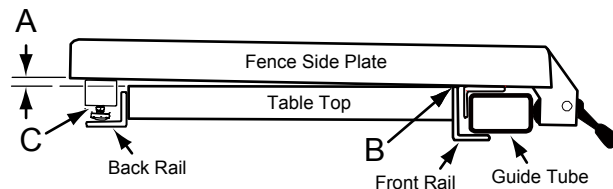

Figure 16
2. View the fence from the left side of the saw (Figure 16). Look for the space *between the table and the fence bottom* to be equal along the entire length of the fence (A, B, Fig. 16).
4. Using a 10mm wrench, loosen the *lock nut* that secures the foot adjustment (C, Fig. 16)
5. Rotate the *foot*, retracting it such that it does not come in contact with the *back rail* (Fig. 16).
When the space at points A and B (Fig. 16) are the same:
7. Extend the *foot* (C, Fig. 16) by rotating it until it just comes in contact with the *back rail*.